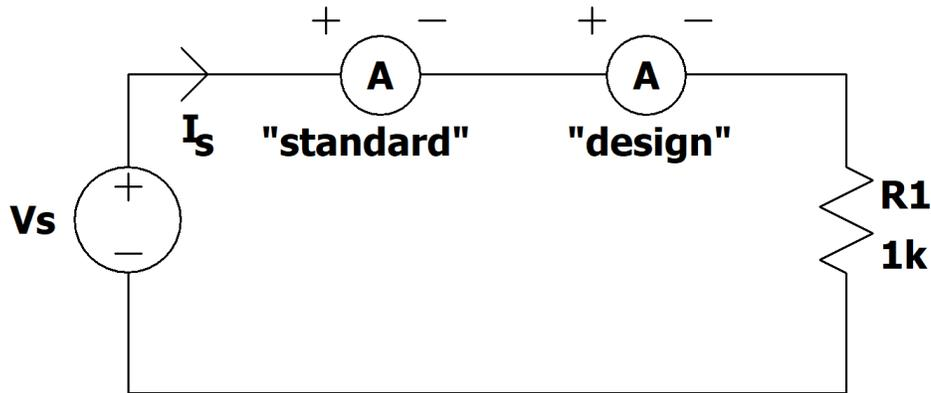

Figure 1. Ammeter test circuit
1. Construct the circuit of Figure 1 using your designed ammeter.